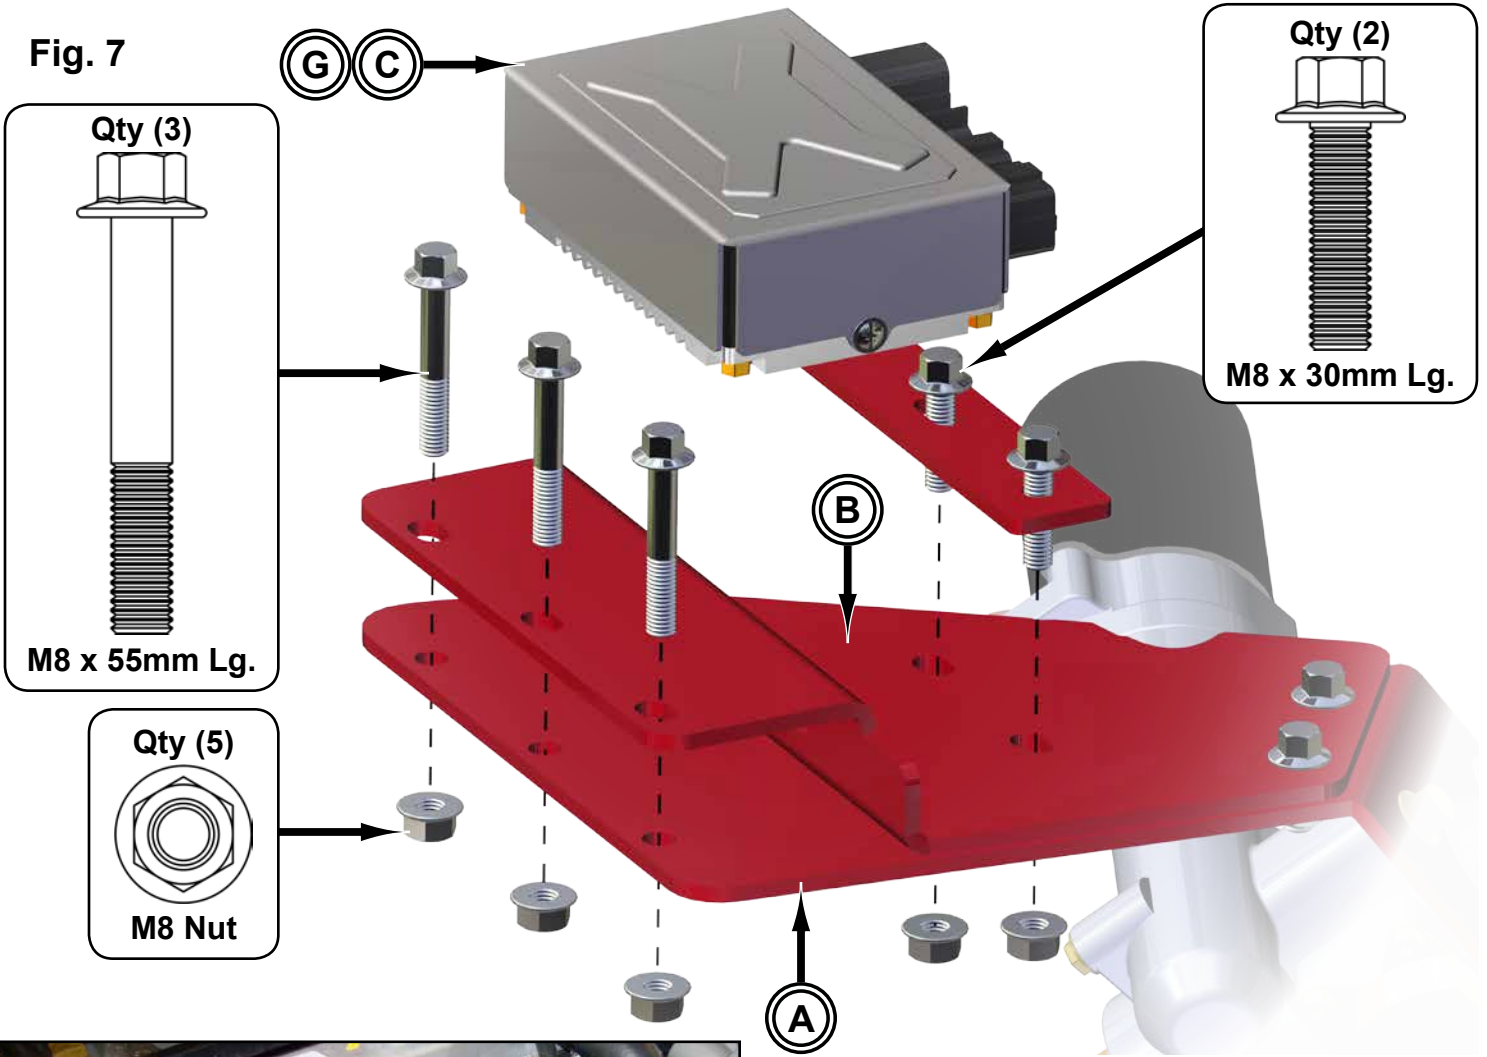

Fig. 8
7. Secure Support Plate (B) to stock hole in Frame with 3/8"-16 x 3/4" Lg. Self Tap. See Figs. 8 - 8a.